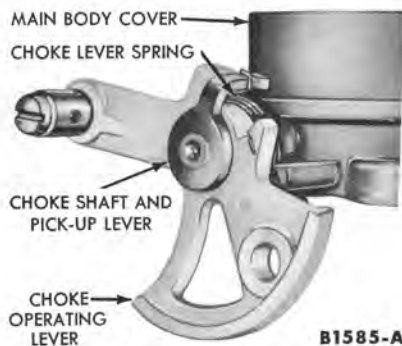

FIG. 28—Choke Shaft, Operating Lever, and Spring Installed
1. If the choke plate or shaft was removed, position the choke shaft operating lever and spring on the choke shaft. Slide the choke shaft into the main body cover (Fig. 28).